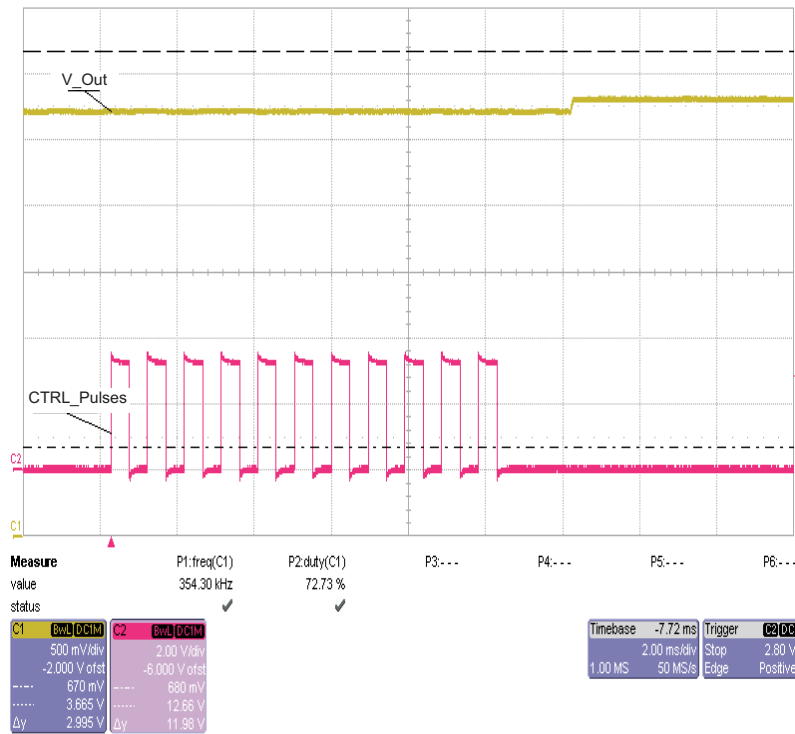
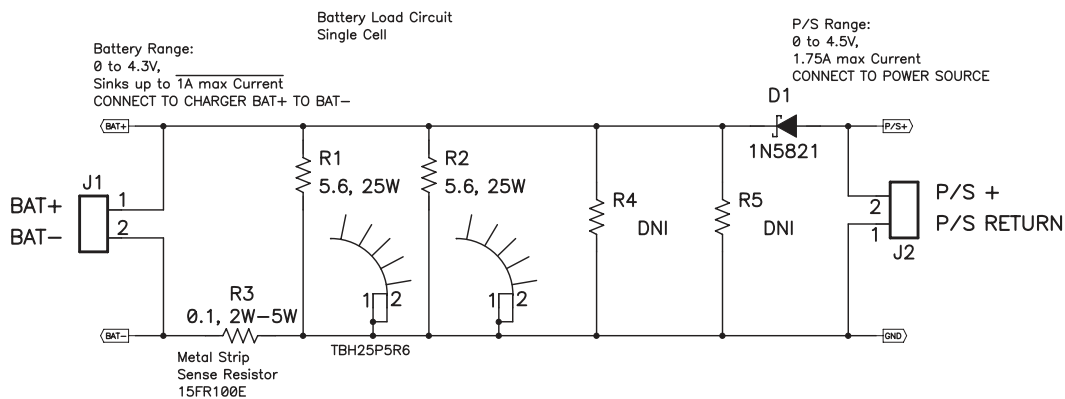

Figure 2. Pulse Programming – CH2: 11 pulses; CH1: V_{OUT} IR change due to increased charge current.
Figure 3. Battery cell Replacement – Allows quick battery adjustment
- See Figure 3 for an alternative “simulated battery replacement”.
6. Verify the power supply input current is between 0.93 and 0.98A. If current does not change, verify that the 11 pulses were generated and the pulse frequency is ~500 Hz, 50% duty cycle (see data sheet specification for further details). R106 can be adjusted to vary frequency (pulse width). See Figure 2 for example of transition. The figure was captured using a 4 quadrant supply (sinks and sources). See optional battery cell replacement in Figure 3.